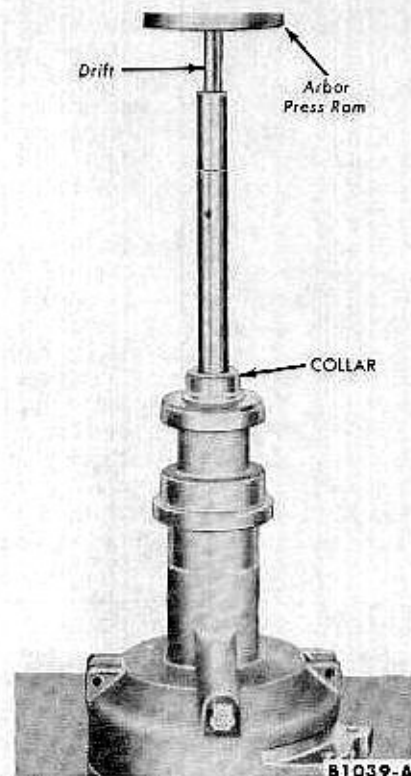

FIG. 9—Shaft Removal
11. Invert the distributor and place it on a support plate in a position that will allow the distributor shaft to clear the support plate. Then press the shaft out of the collar and the distributor housing (Fig. 9).